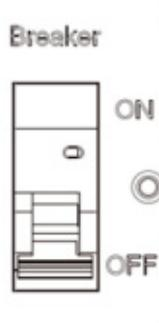

Figure 6: Power Button/ Breaker on Giter batteries
- Switch on the breaker of each battery individually, refer to Figure 6.